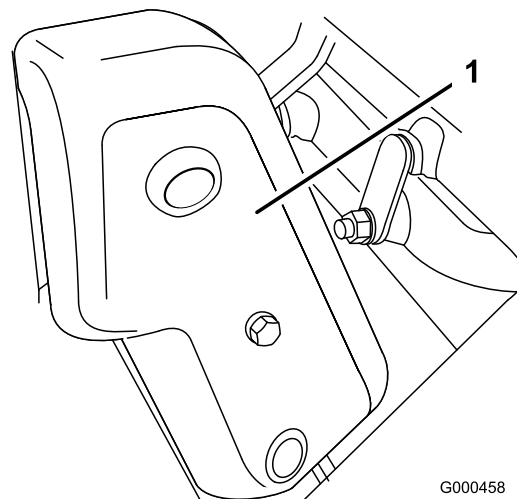

Figure 34
1. Remove the belt cover mounting fasteners and belt cover to expose belt (Figure 34).